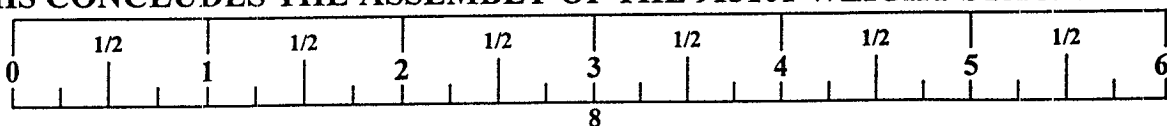

**FIGURE 9**
- A. Attach CHROME LAT BAR & DOUBLE D CHROME HANDLE to ball ends of cables using 5/16" SNAP HOOKS. See FIGURE 9.
- B. If the HEAD PLATE (3) does not sit on top of the first WEIGHT PLATE (5), push the head plate down, insert the SELECTOR PIN (4) and perform several repetitions on the machine. This will relax the cable system and prevent the HEAD PLATE (3) from lifting up.
- C. If after completing STEP B the HEAD PLATE (3) still does not sit on top of the first WEIGHT PLATE (5) or if there is excess slack in the cable system, adjust the threaded end of the CABLE accordingly and retighten the jam nut.